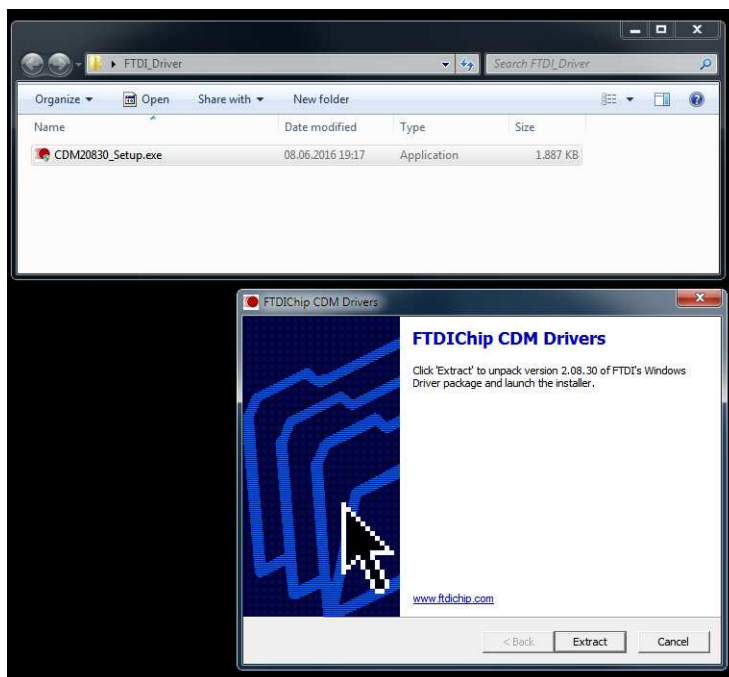

Figure 3. FTDI driver.
3. Install the **FTDI_Driver** driver as shown in **Figure 3**.